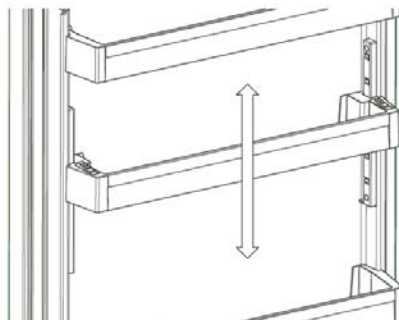

Fig. 2
- Slide the compartment up and down to place it to a desired height (see Fig. 2), then release the "levers" (buttons). Before releasing, make sure that the compartment is attached properly.